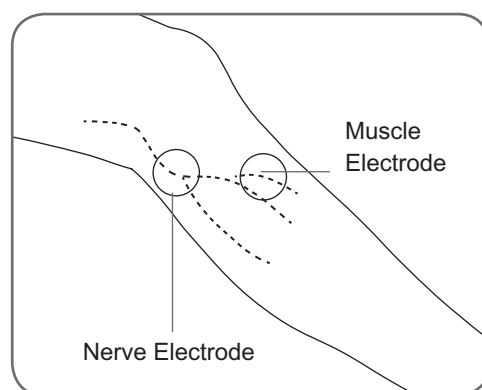

Figure 8-12: Placement of the L300 hydrogel electrodes on the leg.
6. Place one L300 hydrogel electrode (the nerve electrode) over the common peroneal nerve, distal and slightly posterior to the fibular head. See Figure 8-12.
7. Place the other L300 hydrogel electrode (the muscle electrode) approximately 5 cm distal and anterior to the nerve electrode, over the belly of the tibialis anterior muscle. See Figure 8-12.